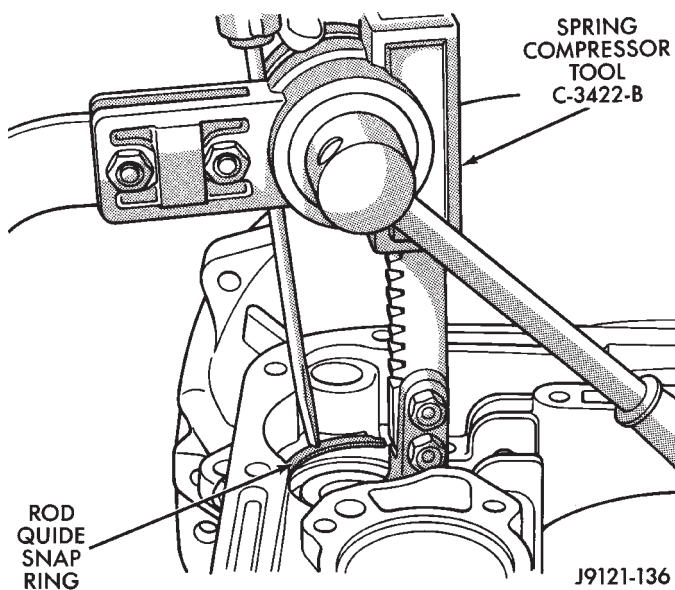

Fig. 151 Compressing Front Servo Rod Guide
(43) Compress front servo rod guide about 1/8 inch with Valve Spring Compressor C-3422-B (Fig. 151). A C-clamp and Special Tool C-4470 can also be used to compress rod guide.
(44) Remove front servo rod guide snap ring. **Exercise caution when removing snap ring. Servo bore can be scratched or nicked if care is not exercised.**
(45) Remove compressor tools and remove front servo rod guide, spring and servo piston.